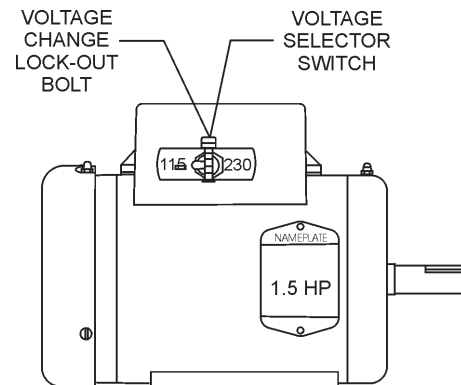

Figure 17. Voltage Change Switch (115 VAC Position)
5. Place the voltage selector switch (Figure 17) in the position that is in accordance with voltage listed on the electric motor's nameplate. The electric motor's are shipped from the factory with the with the voltage selector switch placed in the 115VAC position.